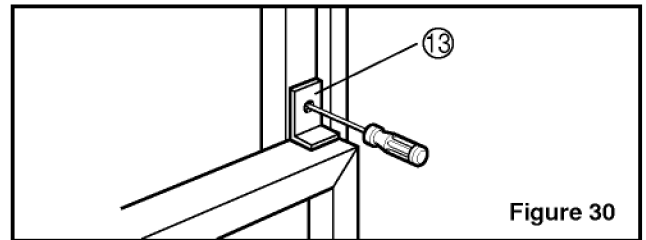

Figure 30
12. Attach the window locking bracket  $\otimes$  with a type C screw. (See Fig. 30)